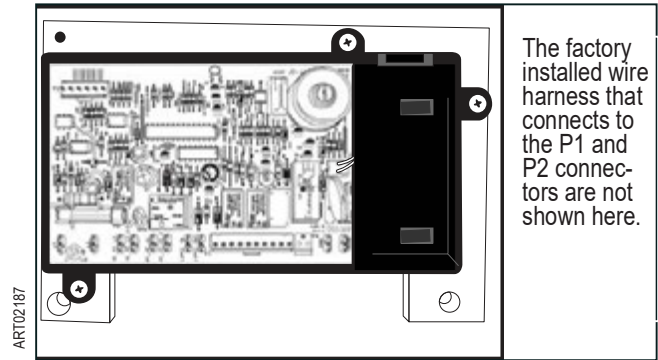

Fig. 3 2-way assembly
- Locate the power board adapter plate assembly from the contents provided in the kit. Refer to Fig. 3 and 4.